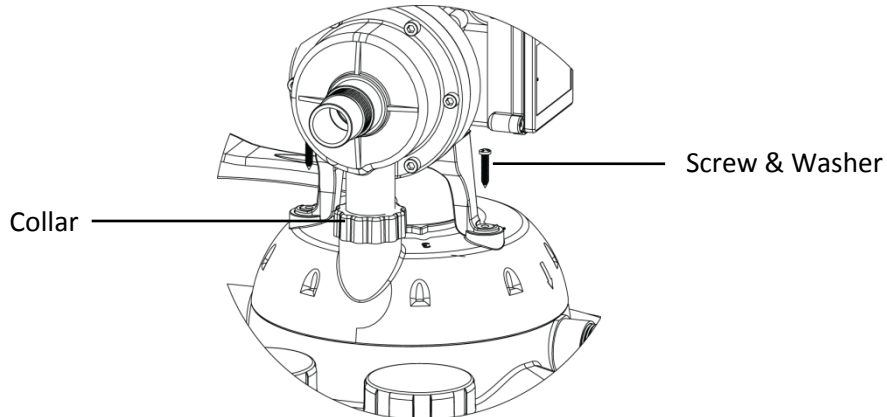

Figure 4
4. Attach motor to top and secure with the 2 screws and washers included. Tighten collar, making sure the seal is installed to prevent leaks (See figure 4)